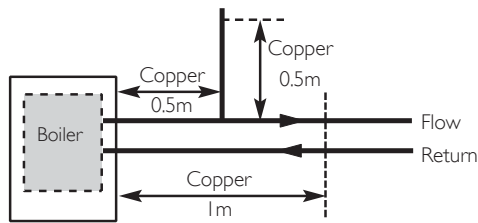

Fig. 9
3. In systems using non-metallic pipework it is necessary to use copper pipe for the boiler Flow and Return. The copper must extend at least 1 metre from the boiler and include any branches (Fig. 9).